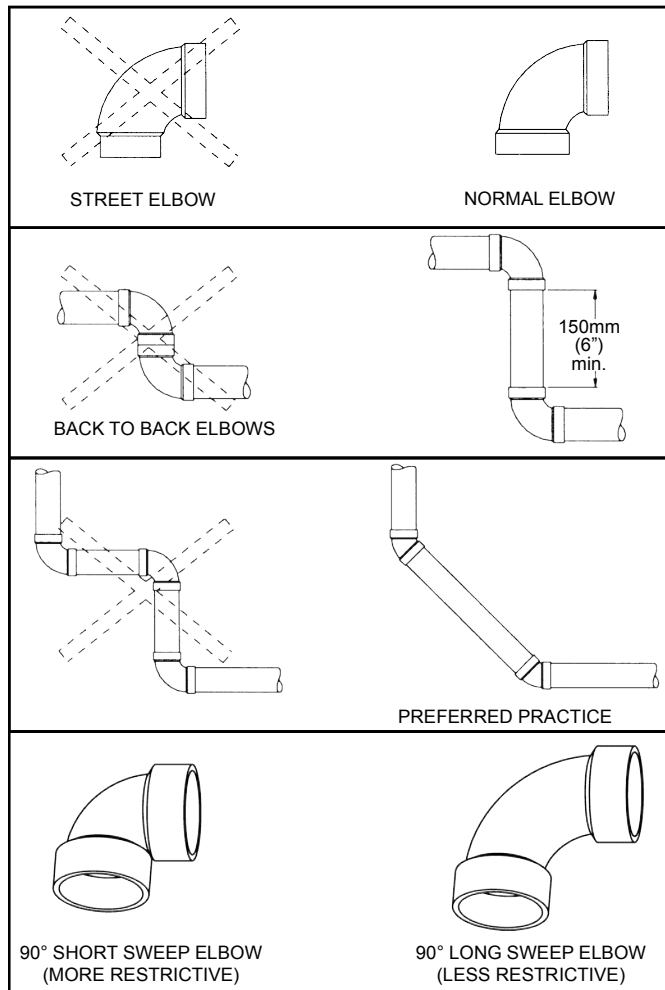

Figure 25.
Note: The information provided in Figure 25 is intended as a guideline for good vent installation practices only and is not intended to restrict venting options beyond those restrictions established by the current edition of the “**Natural Gas and Propane Installation Code**” **B149.1** or any applicable local and provincial codes.
3. Avoid using 90° elbows “back to back” and do not use street elbows. Maintain a minimum 150mm (6”) straight section between elbows. Closely coupled and short radius elbows reduce the venting capacity. Figure 25 shows examples of vent pipe connections.